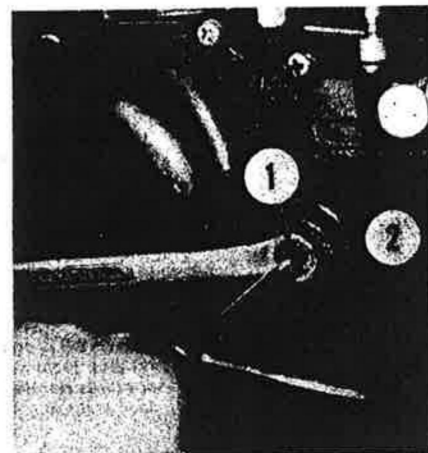

Fig. Y19-11—View of clutch adjuster used on some models. Turn screw (2) in until a resistance is felt then back out 1/4 turn and tighten lock nut (1).
To adjust units with internal lever arm (Fig. Y19-30), back clutch cable adjusters off and loosen lock nut (1—Fig. Y19-11). Turn adjusting screw (2)